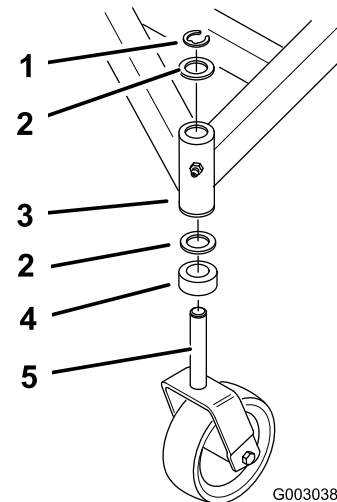

Figure 52
4. If an adjustment is necessary, move an equal number of thrust washers on both castor wheel forks. Move the thrust washers from the top of the carrier frame mounting tube to the bottom to raise the front of the mower. Move the thrust washers from the bottom of the mounting tube to the top to lower the front of the mower (Figure 52).
- To change the side-to-side leveling, move the thrust washers on one castor wheel fork only. Move the thrust washer(s) from the top of the carrier frame mounting tube to the bottom to raise the corresponding side of the mower. Move the thrust washer(s) from the bottom of the mounting tube to the top to lower the corresponding side of the mower. (Figure 52).